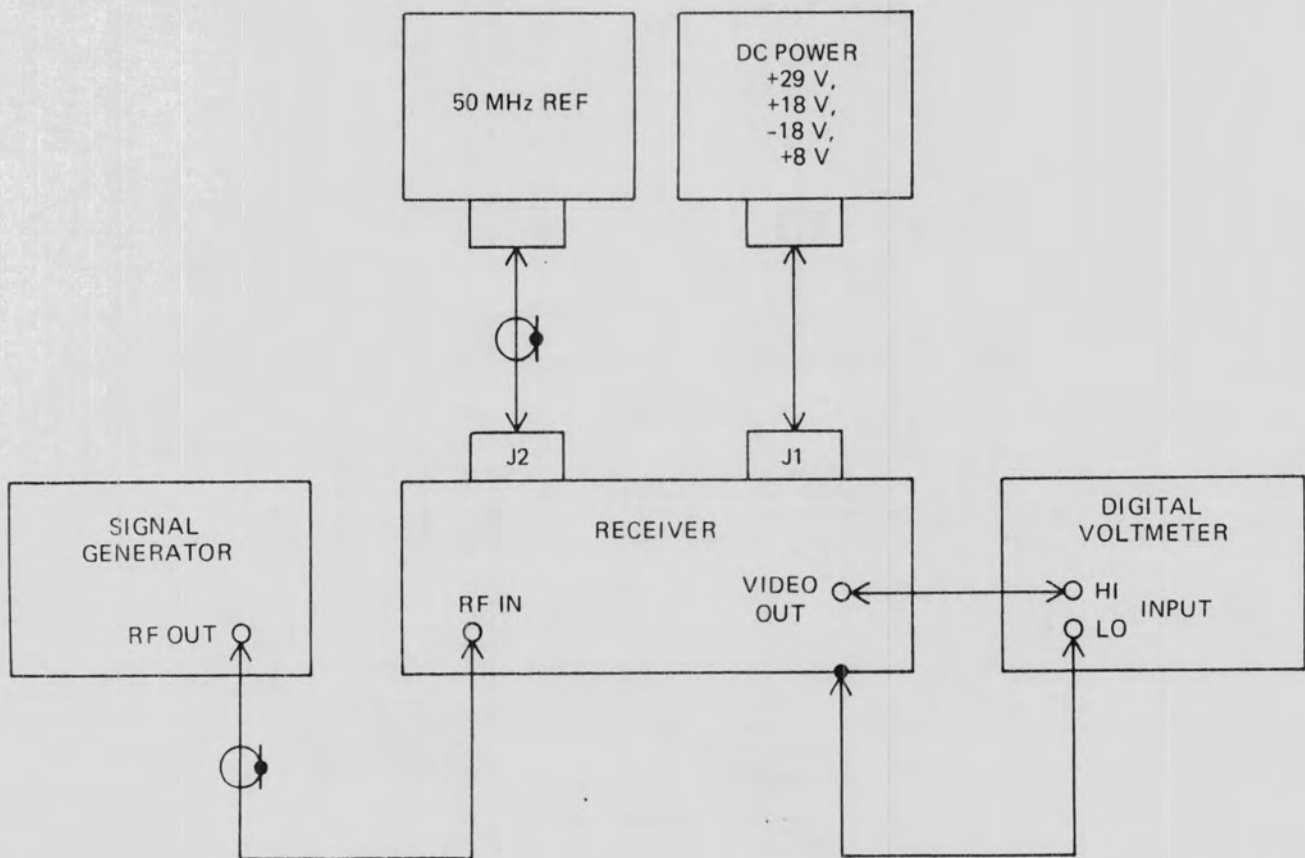

Figure 4-13. Video Output Offset Adjustment Equipment Setup
1. Remove the IF Demodulator section cover and connect the receiver as shown in **Figure 4-13**.